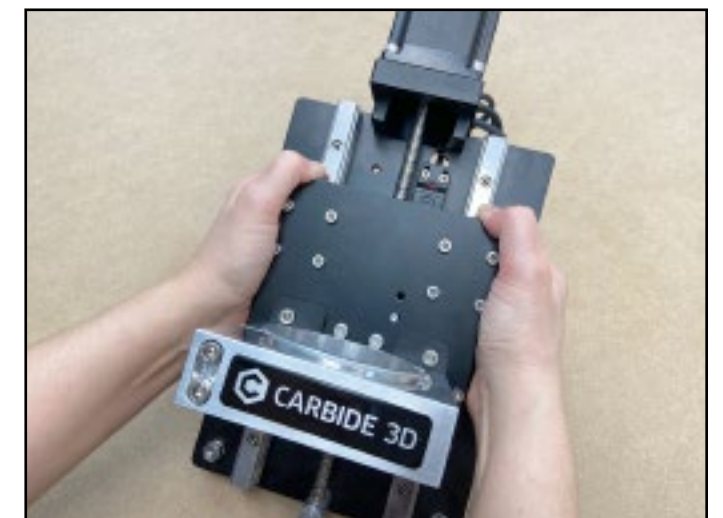

Figure 3-13
5. Grasp the sides of the Z-Plus with both hands and lower the Z-carriage with your thumbs until it stops at the bottom. See **Figure 3-13**.